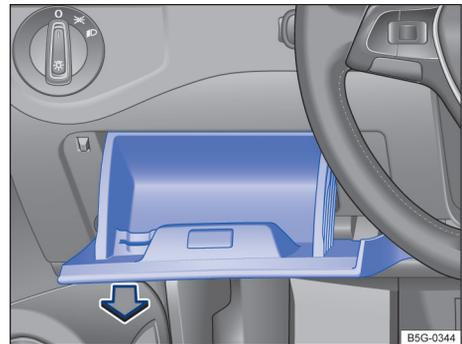

Fig. 156 On the driver side in the instrument panel: Removing the storage compartment to access fuses.
- *To remove:* Pull the lower part of the storage compartment straight out (in the direction of the arrow → fig. 156) and remove the compartment from the bottom. This action may require moderate force.
- *To install:* Fit the storage compartment on the hinges at the bottom of the opening. Guide the storage compartment into the instrument panel by pushing in the direction opposite of the arrow → fig. 156 until it latches into place.